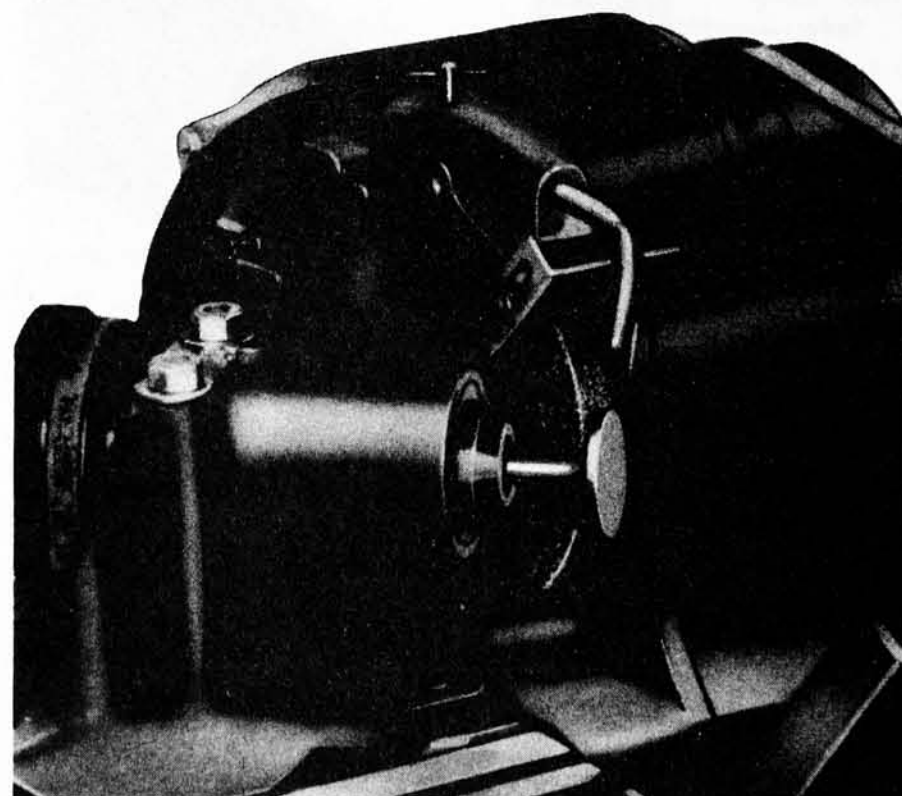

Fig. 15—Refacing Valves
(2) **REFACING VALVES.** Grind the valve face at a 45° angle on a valve grinder (fig. 15). Grind off only enough stock to remove pits and grooves from the valve face. If the edge of the valve head is less than $\frac{1}{32}$ inch wide after grinding, replace the valve.